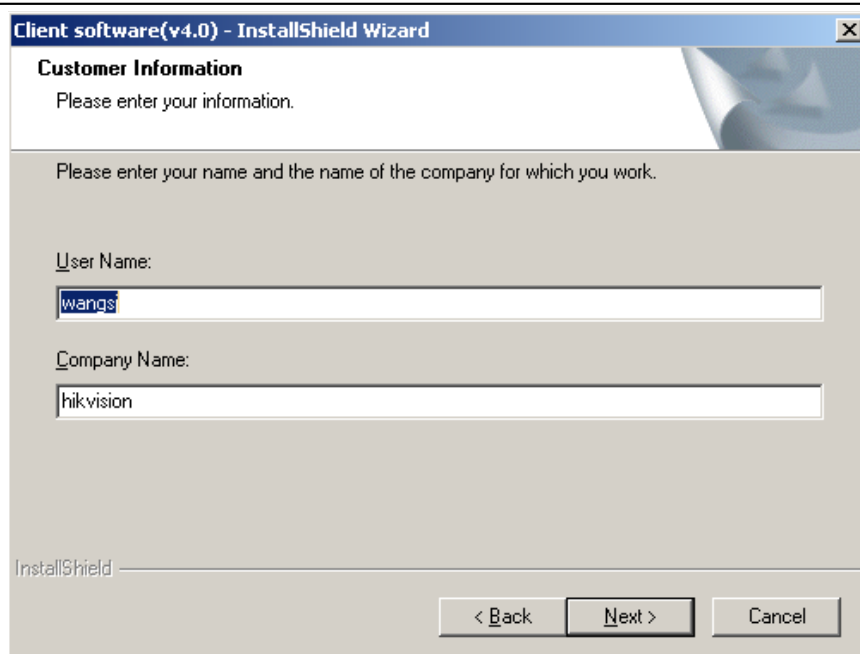

Fig.2.4.3 Customer Information
Step2: Enable the option “I accept the terms of the license agreement” and click the “Next” button to go to the next step as Fig.2.4.3.